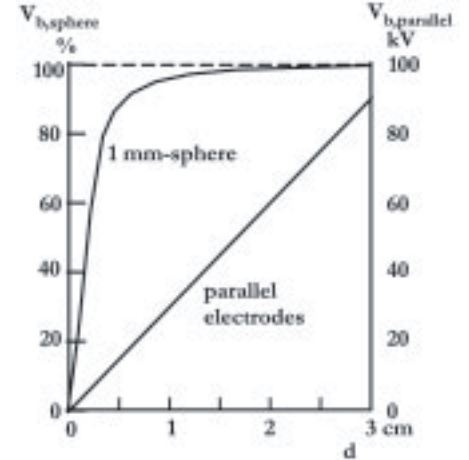

Figure 2
Figure 2 shows the breakdown voltage V_b for parallel electrodes, Equation (1), and for a 1 mm sphere, Equation (3), in the latter case normalized relative to the maximum value of $r \cdot E_b$.